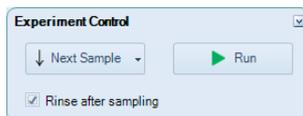

Figure 3-8 Experiment Control Panel
CD3\_CD8\_CD45\_CD4 sample and set it as the Active Sample in the Experiment Manager. A red arrow will appear to the left of the sample, indicating it is the Active Sample. At the same time, the sample name in *Cytometer Control* → *Active Sample Information* panel becomes CD3\_CD8\_CD45\_CD4. To begin collecting this sample, place the CD3 FITC/CD8 PE/CD45 PerCP/CD4 APC sample tube into the sample holder on the NovoCyt™ flow cytometer. Then click the *Run* button in the *Cytometer Control* → *Experiment Control* panel to start sample acquisition (Figure 3-8). At this time, the sample injection probe will move downward to aspirate the sample. After a short period of time for stabilizing the fluidic system, sample acquisition and data collection will start.
**🔍** If you want to increase the sampling speed, you can turn off the automatic cleaning procedure after sampling. To do so, uncheck **Rinse after Sampling** box in the *Cytometer Control* panel from the NovoExpress™ software as shown in Figure 3-8.